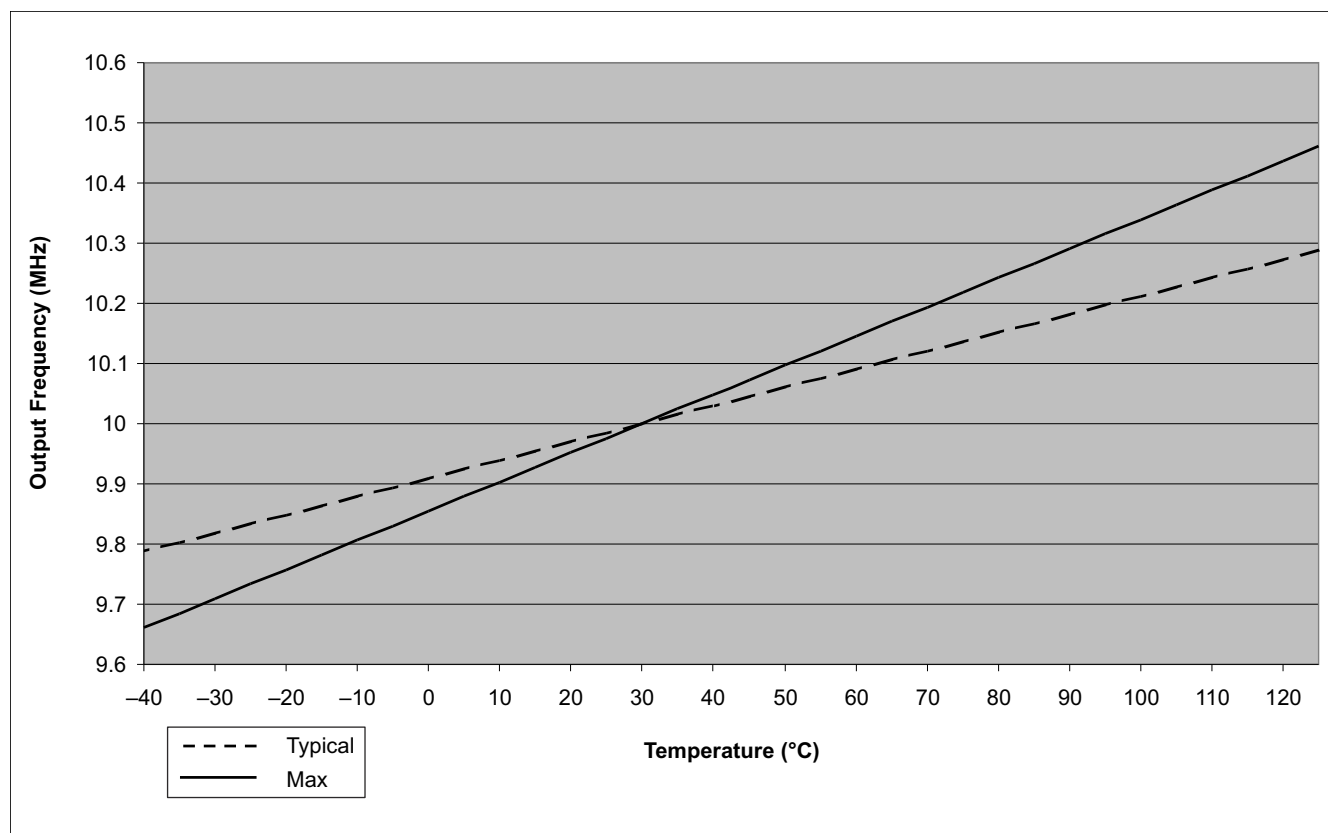

Figure 7-8. Zero-Pin Oscillator Frequency Movement With Temperature
- (1) Oscillator frequency will vary over temperature, see Figure 7-8. To compensate for oscillator temperature drift, see the Oscillator Compensation Guide and C2000Ware. .
- (2) Frequency range ensured only when VREG is enabled, $\overline{\text{VREGENZ}} = V_{SS}$.
- (3) Output frequency of the internal oscillators follows the direction of both the temperature gradient and voltage (V_{DD}) gradient. For example: